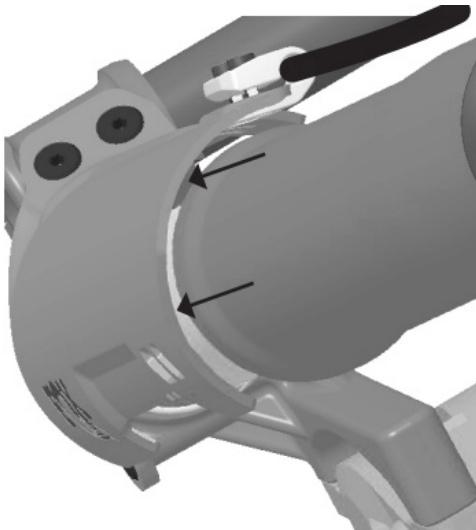
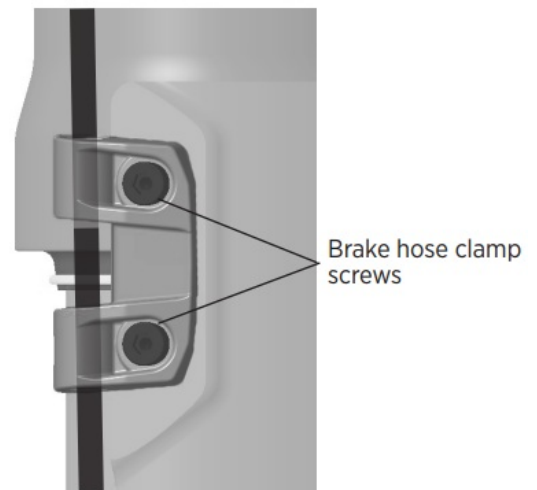

Figure 10: Even gap on inside of fork guard to prevent rubbing (top view)
Figure 11: Torque the brake hose clamp screws
6. Finally, check that the brake hose and clamp are now in a position that allows an even gap all the way around the inside of the fork guard to prevent any rubbing or friction (Figure 10). Use a 2.5 mm hex bit and a torque wrench to tighten the two brake hose clamp screws to 0.9 N. m (8 in-lb). (See Figure 11.)